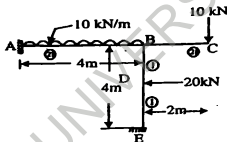

Figure 2
- (b) Analyze the structure in Figure 2 by the slope deflection method and sketch the bending moment and shear force diagram.